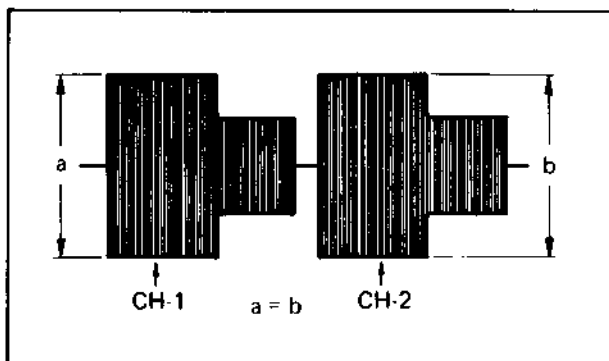

Fig. 5-27 Playback color channel balance
2. Connect $47\ \mu\text{F}$ 16 V W E capacitor between TP-202 (ACC IN) and ground as shown in Fig. 5-27.
4. Adjust R49 (P.B. COLOR CH. BALANCE) on the Pre/Rec circuit board so that the color levels to be equal as shown in Fig. 5-27.